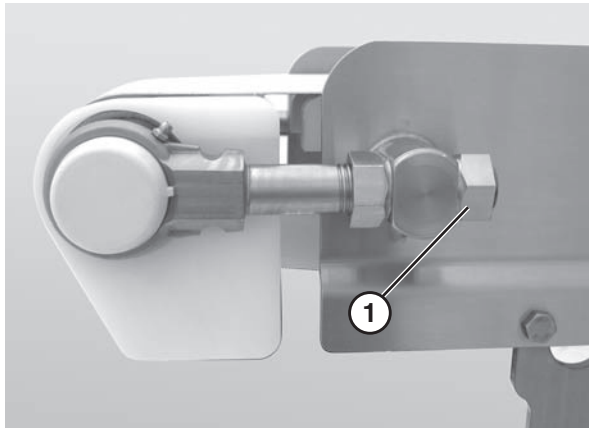

Figure 49
1. Loosen the back nuts (**Figure 49, item 1**) on both sides of the idler tail shaft.